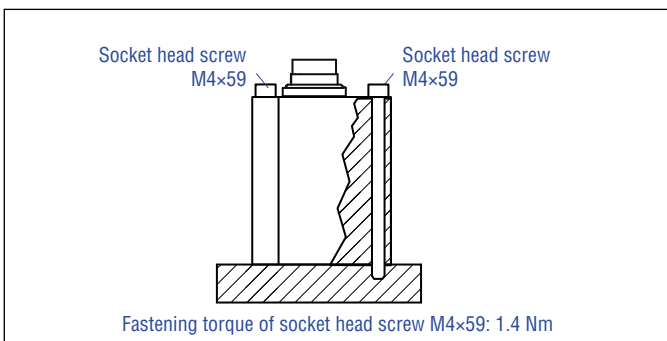

Fig. 15: Mounting with socket head screws M4x59
3. Note the minimum distance to a spatial limitation of 300 mm (11.81 in.), when mounting/dismounting the sensor. The recommended distance is 500 mm (20 in.) (Fig. 15).